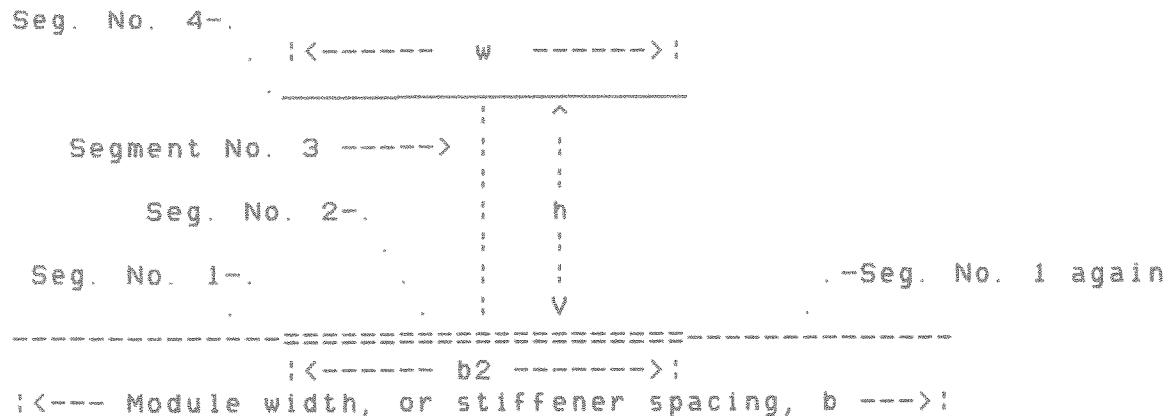

FIGURE 1 SINGLE MODULE OF A PANEL WITH T-SHAPED STRINGERS
2. Buckling load factors and post-local buckling behavior are calculated for what is termed in PANDA2 a "panel module". Such a module is depicted in Figs. 1 and 2. A module includes the cross section of a stiffener plus the panel skin of width equal to the spacing between stiffeners. In this model the panel module cross section is divided into segments, each of which is discretized and analyzed via the finite difference energy method. Variation of deflection in the axial direction is assumed to be harmonic [ $\sin(n\theta)$  or  $\cos(n\theta)$ ]. This one-dimensional discretization is similar to that used in the BOSOR programs for the analysis of shells of revolution. In fact, many of the subroutines for buckling and vibration analysis are taken from BOSOR4 and modified slightly. The modification is necessary to handle prismatic structures instead of shells of revolution. Both local and wide-column instability can be handled with the same structural model.
A typical panel module is shown in Fig. 1.